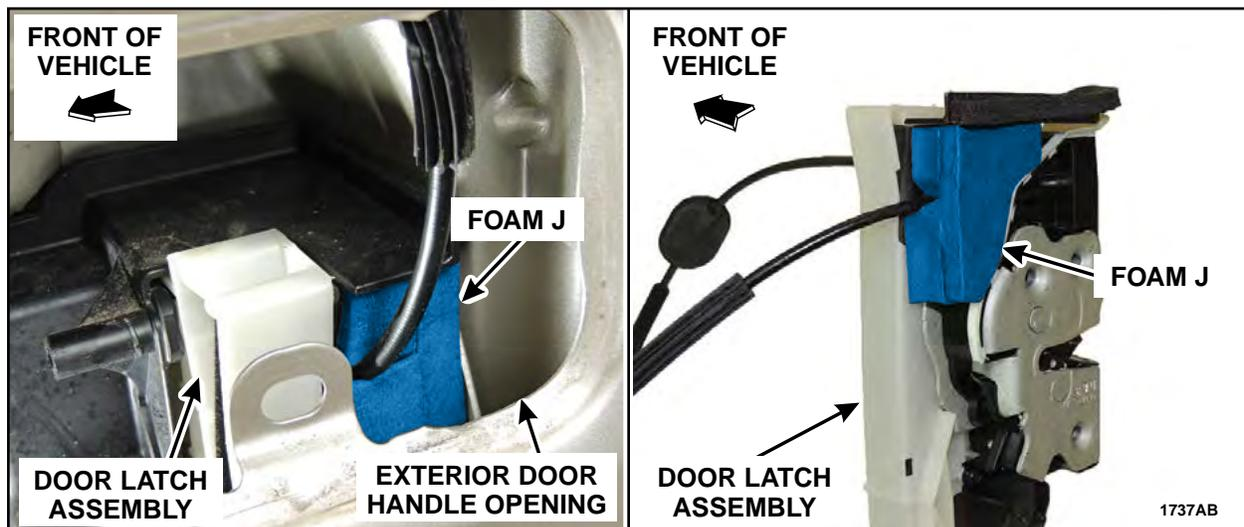

FIGURE 77
1. Install Foam J onto the rear door latch. See Figure 77.